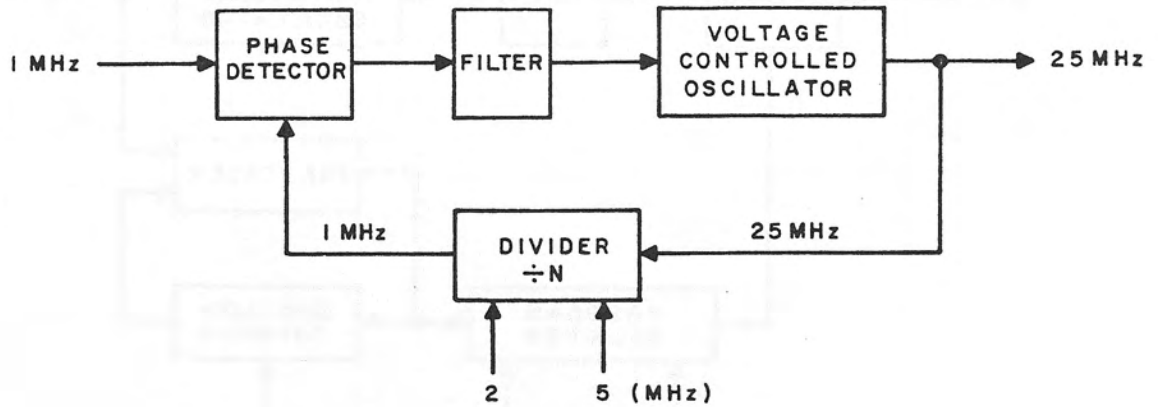

Figure 3-9. Programmable Phase Lock Loop
c. Phase Lock Loop Function. To simplify the functional description of the phase lock loop, numbers are assigned to the phase lock loop reference frequency, its output frequency, and its divider selectable inputs. See figure 3-9. A portion of the phase lock loop 25 MHz output is looped back through a divider which is set at divide-by-25. The divider emits a pulse for every 25 it counts. Therefore, the divider output has a frequency of 1 MHz.